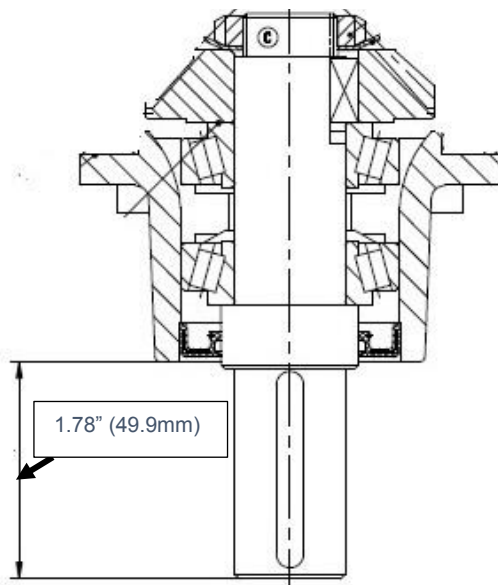

Figure 117
2. Install output shaft in the housing. Press the shaft until there is 1.78" (49.9mm) of the shaft past the end of the housing. Figure 117